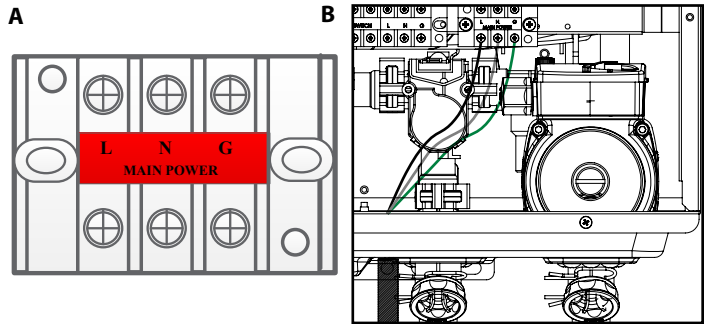

Figure 30 - A - Line Voltage Wiring Terminal Block, and B - Terminal Block Wired through Knockout
- Connect the incoming power wiring to the line voltage terminal strip in the electrical junction box at terminals L (Line Voltage), N (Neutral), and G (Ground) (shown in Figure 30).